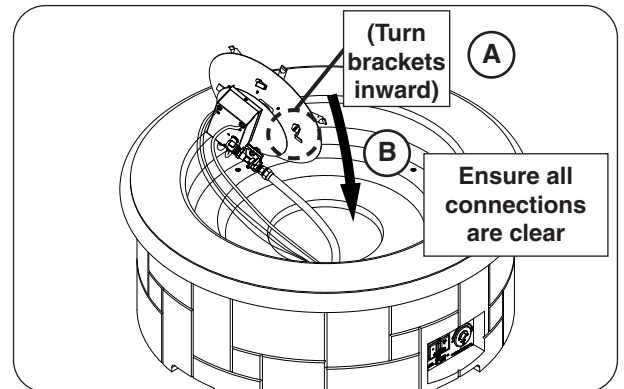

Fig. 33-2 Insert burner assembly
1. Ensure that the four burner brackets are turned inward, then insert the burner assembly (see Fig. 33-2, A-B).